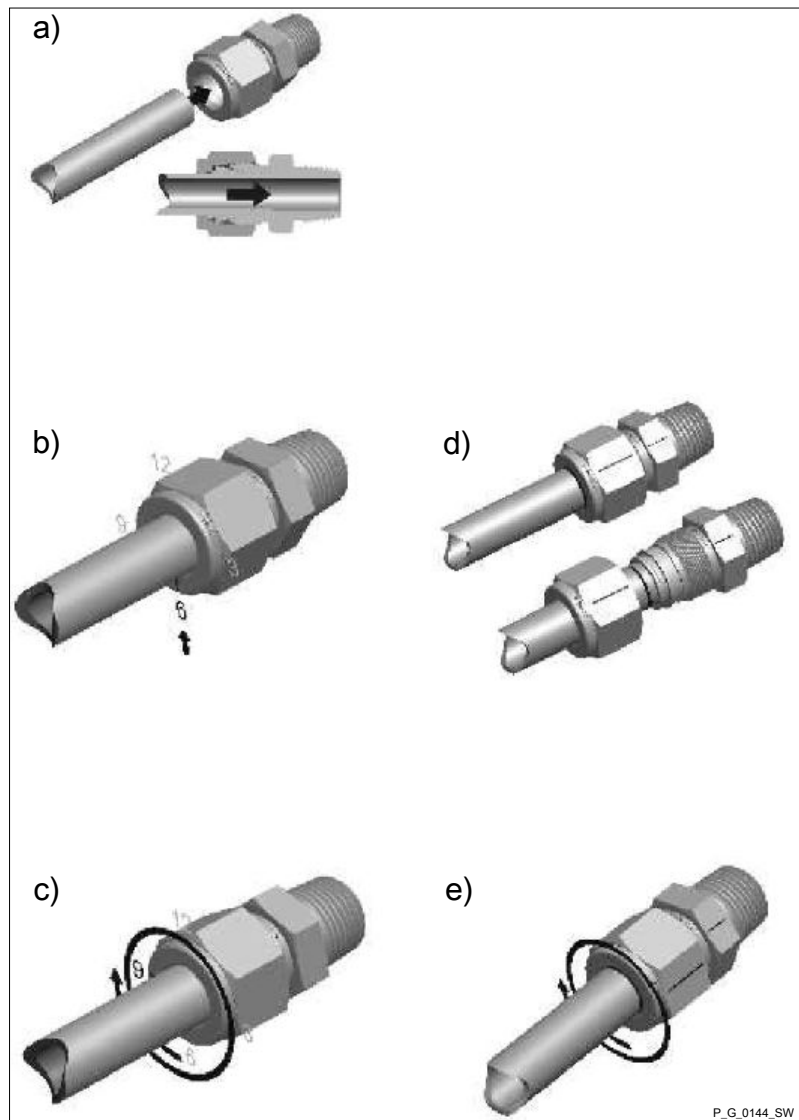

Fig. 9
2. ➔ Insert the pipe into the valve as far as the stop - a threaded connector is shown in the following drawings instead of the valve - see Fig. 9 a).
4. ➔ Mark the union nut at the 6 o'clock position - see Fig. 9 b).
5. ➔ Use an open-ended spanner to counter hold the valve housing and use another open-ended spanner to tighten the union nut 1 1/4 revolutions to the 3 o'clock position - see Fig. 9 c).
1. ➤ Prior to disassembly: Draw a line over two adjacent width flats of the union nut and valve - see Fig. 9 d).
2. ➤ When re-fitting: Insert the pipe with the clamp rings into the valve body until the front clamp ring is sitting in the valve - see Fig. 9 d).
3. ➤ Use an open-ended spanner to counter hold the valve housing and use another open-ended spanner to tighten the union nut to its final position, indicated by the two lines on the pipe and valve (the resistance will increase noticeably at this point - see Fig. 9 e)